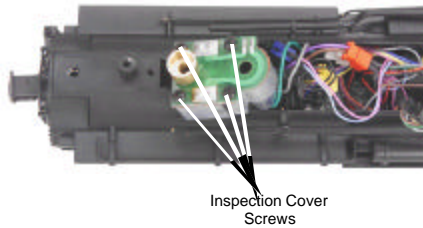

Figure 18
1. To replace the headlight in this model you will need to follow the disassembly instructions for smoke unit maintenance in figure 18 on pg. 21. Once the smoke unit is removed you can access the wires for the headlight (see figure 9).